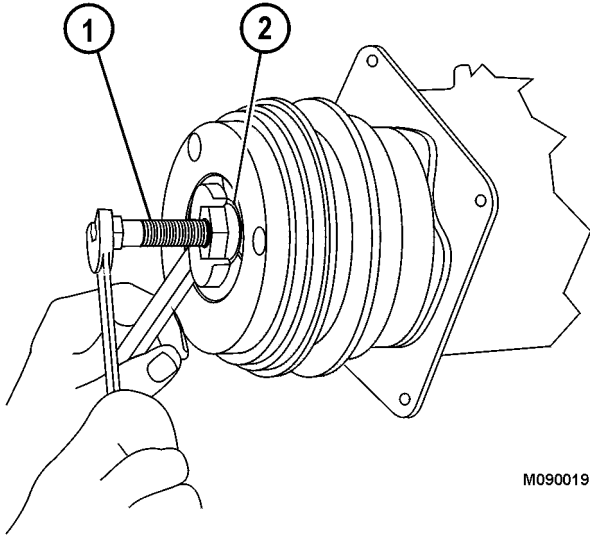

FIGURE 4-25.
3. Thread drive plate installer (1, Figure 4-25) onto the shaft of the compressor. Spacer (2) should be in place under the hex nut on the tool.